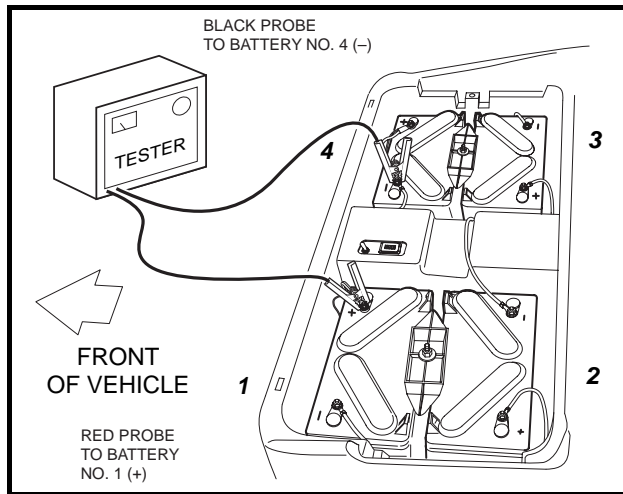

Figure 11-9 Battery Discharge Test
2. Connect the tester leads to the positive (+) post of battery no.1 and negative (-) post of battery no. 4 (Figure 11-9, Page 11-20)